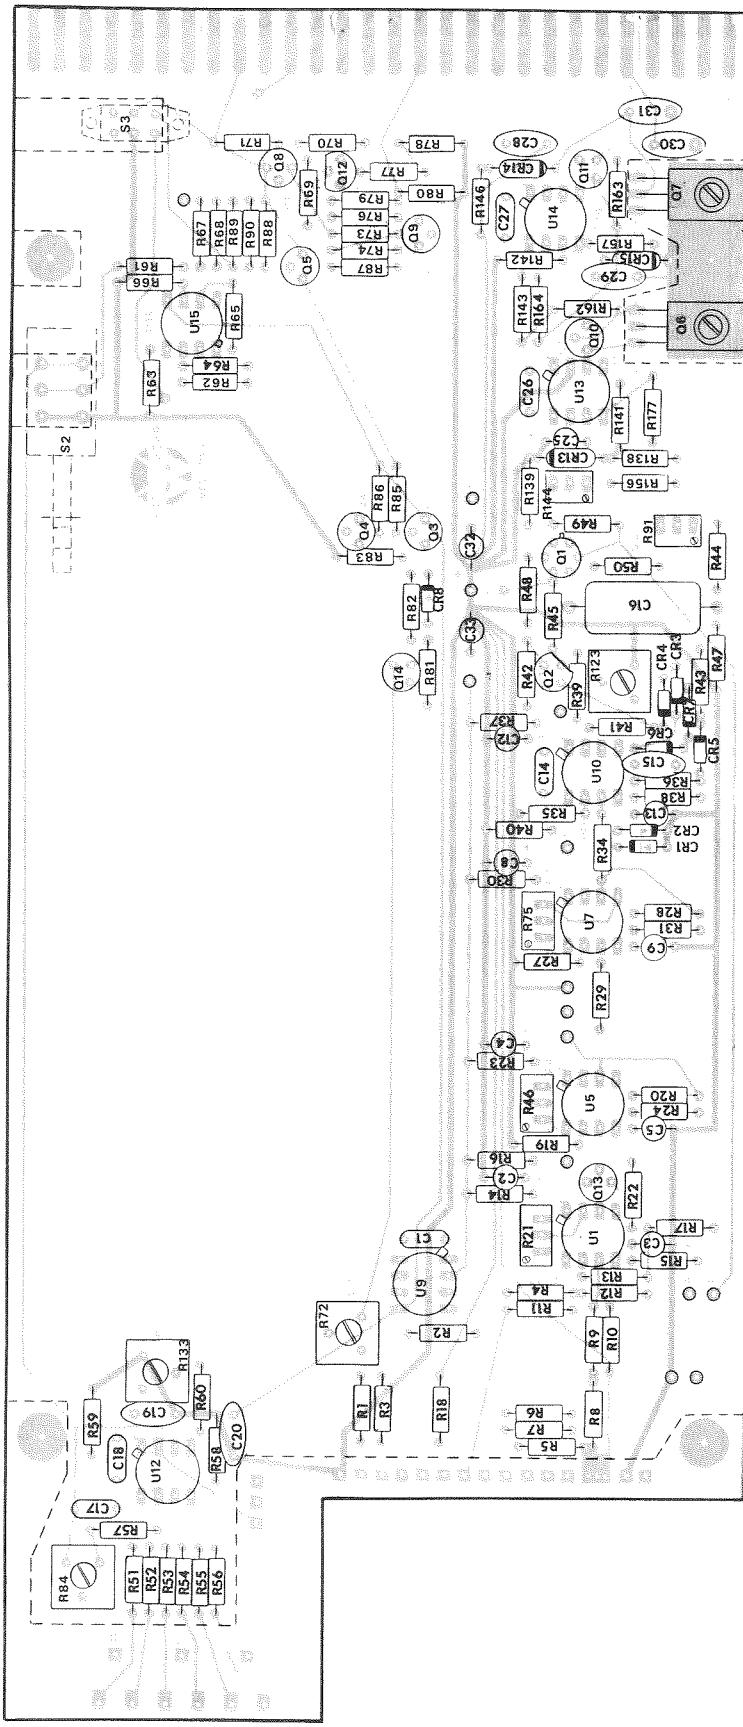

Figure 4-10. Linear Plug-In PC Assembly
2. Connect DVM to TP6 (Figure 4-10).
3. Adjust -15V Adjust R144 until the DVM indicates  $-15V \pm 300mV$  (Figure 4-10).
4. Connect DVM to TP7 (Figure 4-10).
2. On the bottom side of the PC board, set Auto Null to On (Figure 4-10).
3. Connect DVM to each test point in Table 4-8 and perform the necessary adjustment (see Figure 4-10 for location of the potentiometers).
1. Connect DVM to TP9 (Figure 4-10).
4. Adjust Bal 6 R133 until DVM reads  $0 \pm 1mV$  (Figure 4-10).
3. Connect DVM to TP9 (Figure 4-10).
4. Adjust Gain Cal R84 until DVM reads  $+4V \pm 100\mu V$  (Figure 4-10).